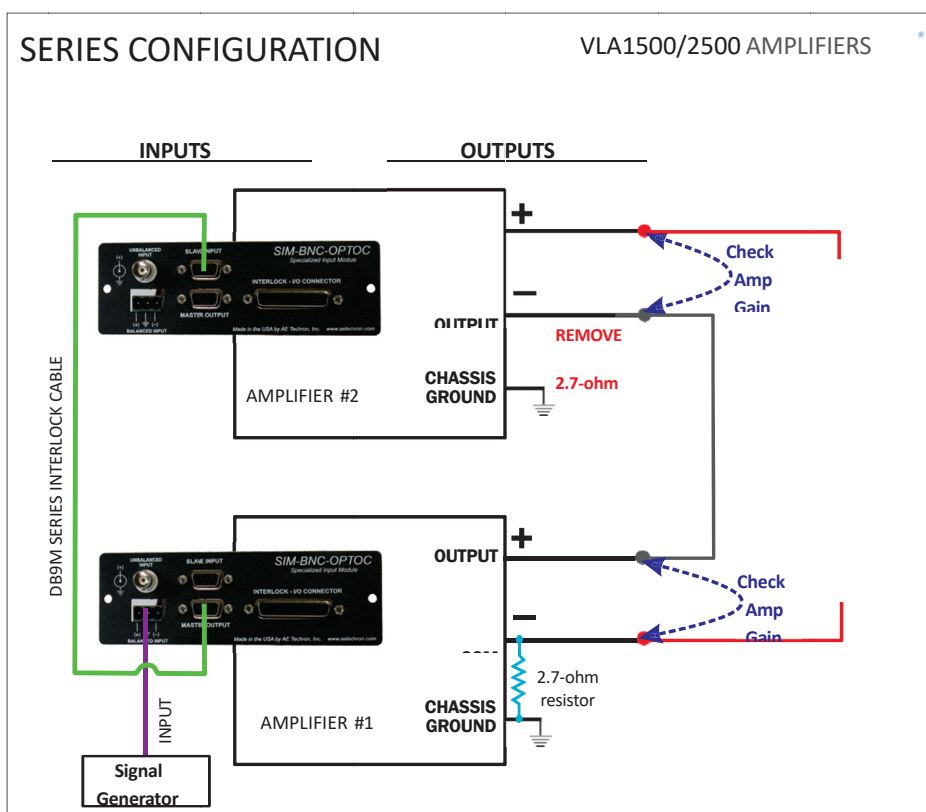

Figure B.2.41 – Wiring and Test Points for Amp Gain
- B. Apply a sine wave of 5Vrms at 100 Hz at the Master amplifier input. Using a voltmeter measure across each amplifier's back-panel output connector terminals (OUTPUT to COM) to verify an output from each amplifier of approximately 100Vrms (gain of 20). See **Figure B.2.41**. NOTE: If any amplifier's gain varies significantly from the set gain of 20, the amplifier may require servicing. Contact Venable Technical Support.